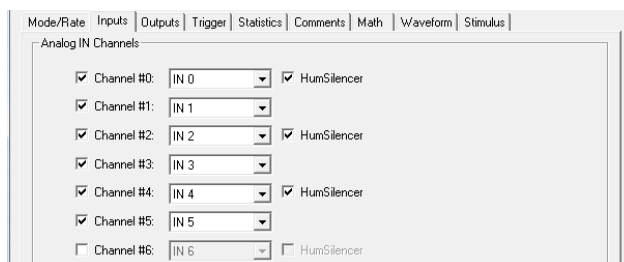

Figure 3-2: Edit Protocol > Input dialog tab check boxes used to enable the Real Time Controls panel items for the HumSilencer system.
The HumSilencer system control-enabling check box is part of the AxoScope Software Version 10.6 and the Clampex Software Version 10.6, located in the **Edit Protocol > Inputs** dialog tab (Figure 3-2). A blank check box indicates that the Real Time Controls panel items for ANC are disabled. The HumSilencer check boxes correspond to the type of ANC channels module with which your instrument is equipped (0, 1, or 4).
CAUTION! The Real Time Controls panel items under **HumSilencer** do nothing if an enabling **Edit Protocol > Inputs > HumSilencer** dialog tab check box is not selected for an available **Analog IN Channel** (Figure 3-2 on page 18).
2.  Click the **Edit Protocol** button (or click **Acquire > Edit Protocol**) and then click the **Inputs** tab. Select the **Analog IN Channel #0 > HumSilencer** check box, or if your instrument uses four ANC inputs, select the **Analog IN Channel #0, #2, #4, #6 > HumSilencer** check boxes (Figure 3-2 on page 18).